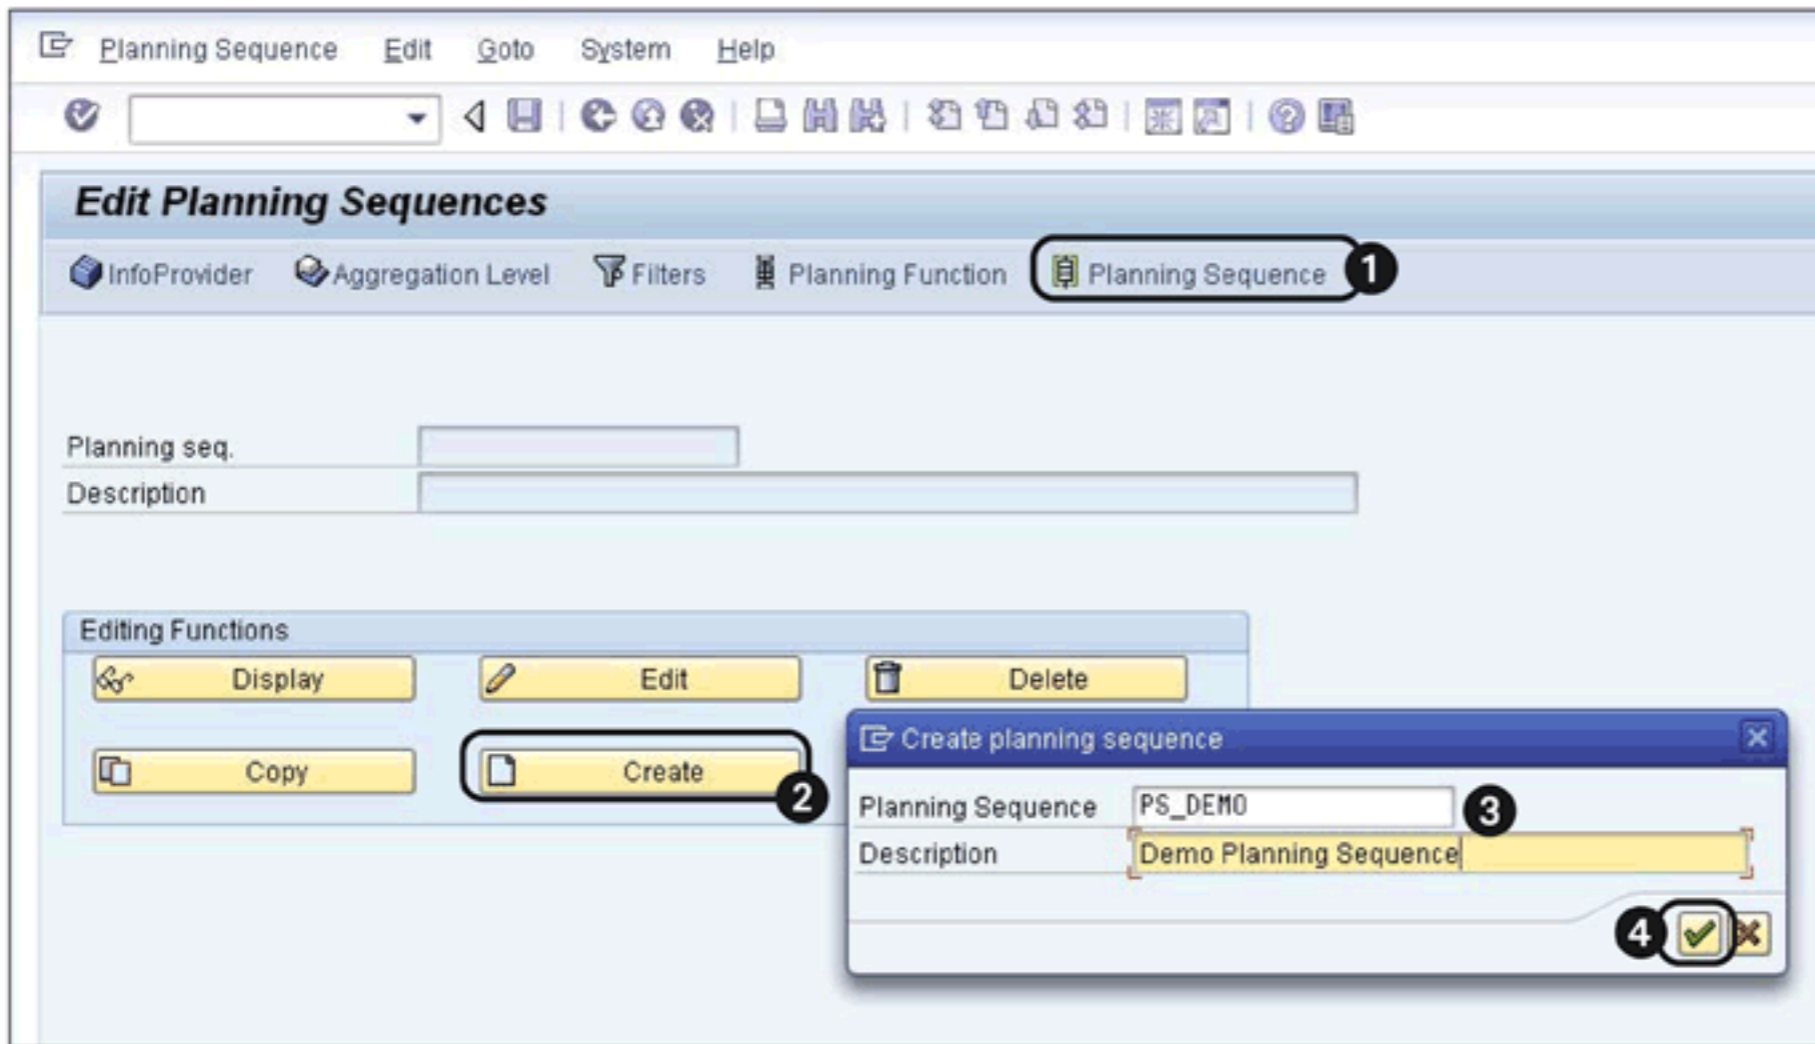

Figure 12.52 Create New Planning Sequence
To create a planning sequence, go to the PLANNING SEQUENCES section (1 of Figure 12.52), and click on CREATE (2). Enter the TECHNICAL NAME and DESCRIPTION of the planning sequence (3), and click on OK (4).